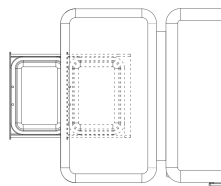

Figure 18
- Debris tray under the leg section. There are slides on both sides to pull in and out. Then the debris tray can be pushed in or pulled out through the bottom of the leg plate for easy operation.(Figure 18).